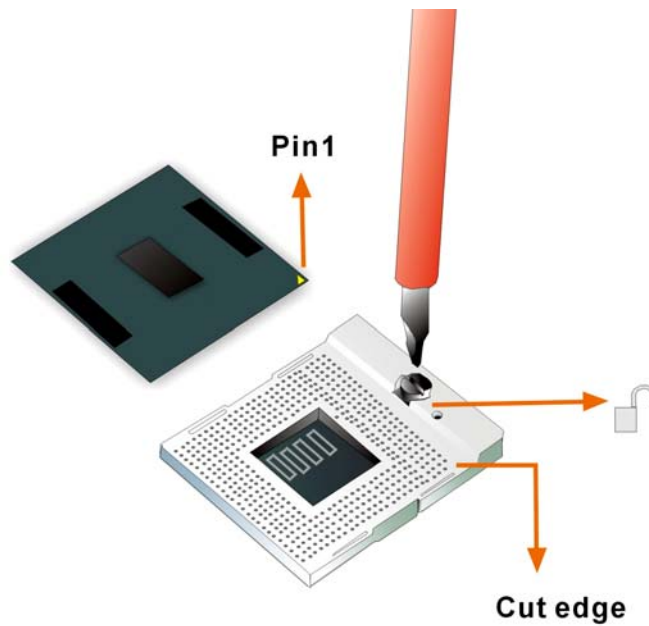

Figure 4-1: Make sure the CPU socket retention screw is unlocked
- Step 1:** **Is the CPU retention screw in an unlocked position?** When shipped, the retention screw of the CPU socket should be in the unlocked position. If it is not in the unlocked position, use a screwdriver to position it in an unlocked position. (See **Figure 4-1**)